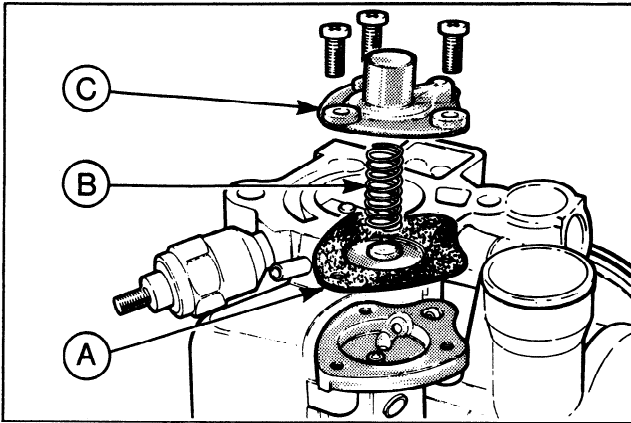

FIG. 25 Accelerator Pump Assembly
3. Remove pump diaphragm (Figure 25).